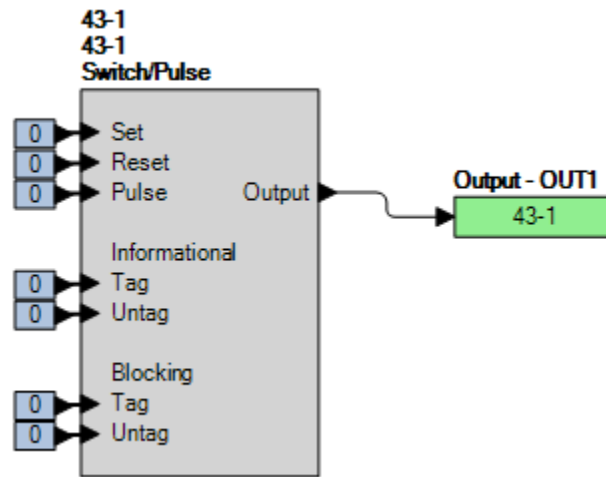

Figure 301. BESTlogicPlus Settings
Step 2: Use BESTCOMSPlus to configure the BESTlogicPlus programmable logic shown in Figure 301.